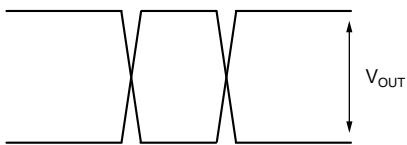

**Figure 1a. Timing Diagram (EN, IN1, IN2)**
- See "Timing Diagrams," Figure 1a.